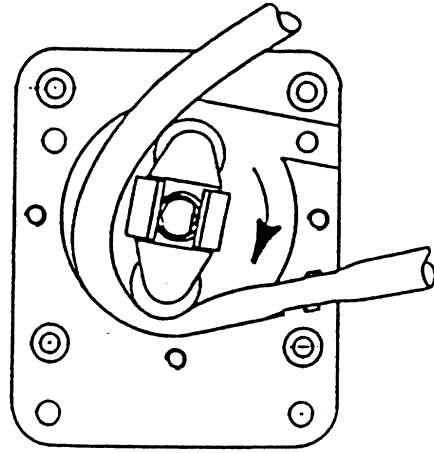

FIG. 3
- 8) Continue to rotate roller bracket assembly, pushing tubing into roller race. (Figure 3)